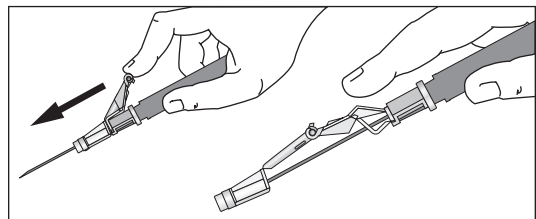

Figure 23
- Immediately activate needle protection device upon withdrawal from patient by pushing lever arm completely forward until needle tip is fully covered (see Figure 23).